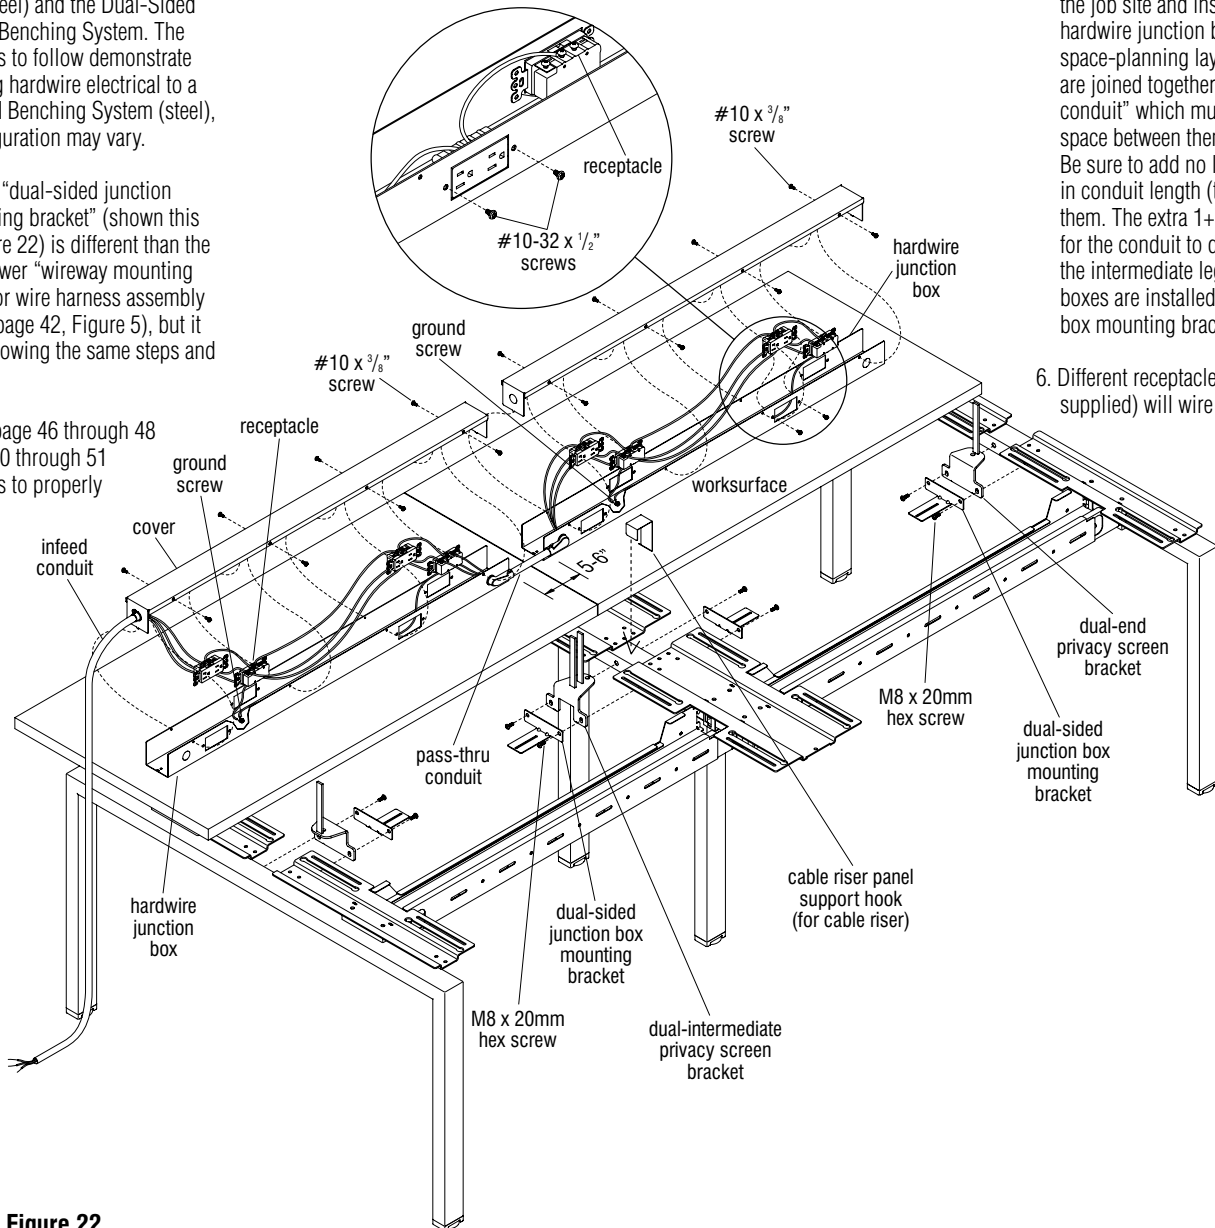

Figure 22
**Note:** The "dual-sided junction box mounting bracket" (shown this page, Figure 22) is different than the 10-wire power "wireway mounting bracket" (for wire harness assembly shown on page 42, Figure 5), but it installs following the same steps and guidelines.
install the "top infeed support bracket" (not shown Figure 22), any required privacy screen brackets, as well as the "dual-sided junction box mounting bracket" and "cable riser panel support hook" (if required), shown on this page (Figure 22).
4. Place hardwire junction boxes onto the worksurfaces and stage boxes in the order and location specified by the space-planning layout. Remove the junction box covers and set aside (Figure 22).
5. Follow all state and local codes at the job site and install wiring to hardwire junction boxes per the space-planning layout. The boxes are joined together by "pass-thru conduit" which must have a 5-6" space between them (step 8 below). Be sure to add no less than 1" extra in conduit length (to be 6") between them. The extra 1+" is added to allow for the conduit to drape up and over the intermediate leg top when the boxes are installed to the junction box mounting brackets (Figure 22).
Depending on the type of receptacle used, determine if the individual wires will attach to the receptacle before or after they are mounted to the specified locations in the hardwire junction boxes. To mount receptacles to the box, position receptacles inside the box with the receptacle face through the opening, then secure the box to the receptacle using two #10-32 x 1/2" screws (Figure 22).
7. Complete the wiring of receptacles, then secure the covers to the hardwire junction boxes using #10 x 3/8" screws at all required locations per box as illustrated (Figure 22).